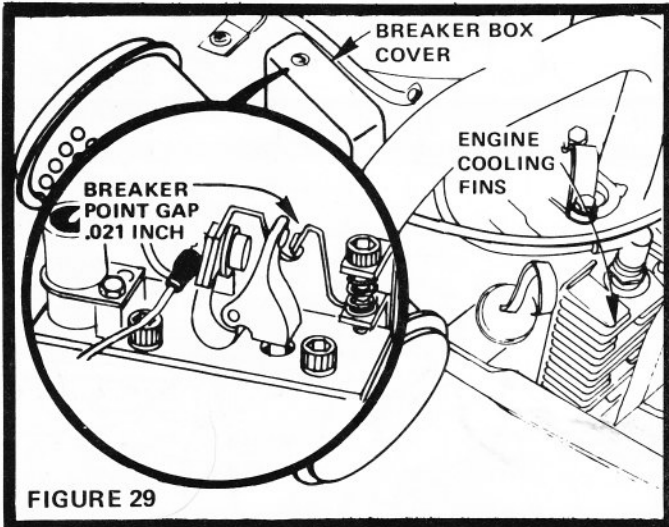

FIGURE 29
- Remove Breaker Box Cover (Fig. 29) by loosening Screw and lift off to remove.